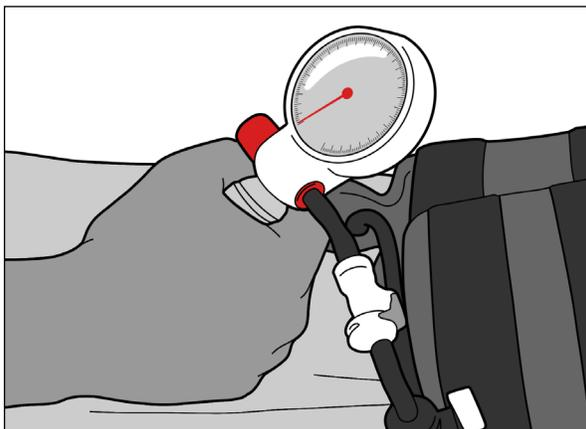

Fig. 24
2. Rotate knob away from you (Fig. 24).